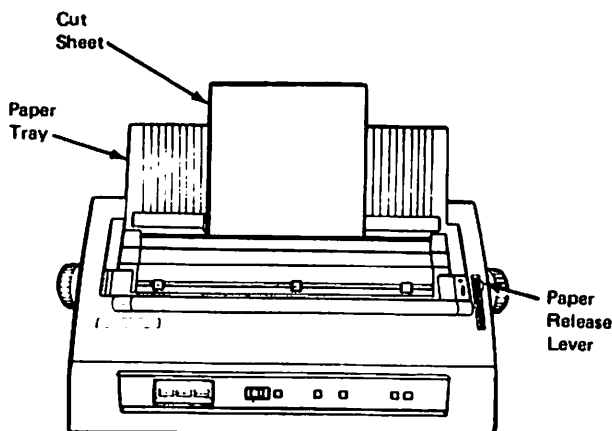

Figure 17 Inserting paper
3. Insert a sheet of paper, aligned with the left edge guide and the print side toward the rear of the printer, into the paper tray of the cut-sheet guide (Figure 17).